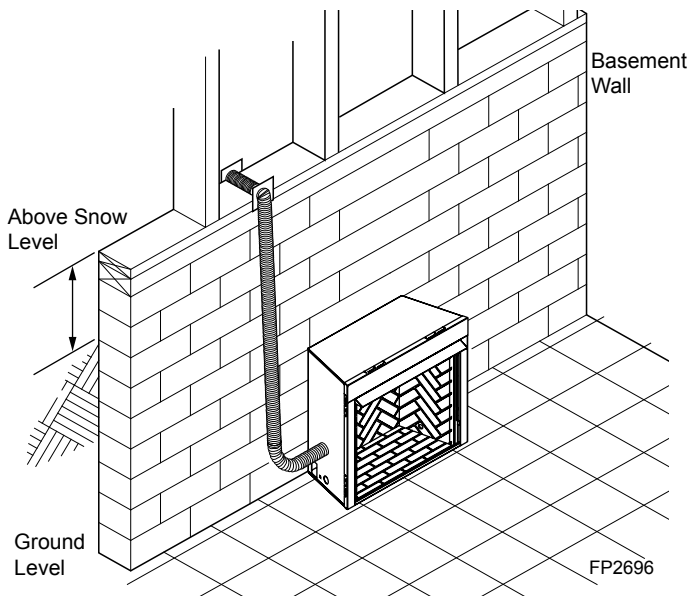

Figure 12 - Basement Installation
6. Avoid extremely long runs and numerous turns in the duct leading from the fireplace to the combustion air assembly. These conditions increase the resistance to the free flow of air through the duct. Refer to Figures 12 through 15 for methods of installing the outside air for combustion assemblies.